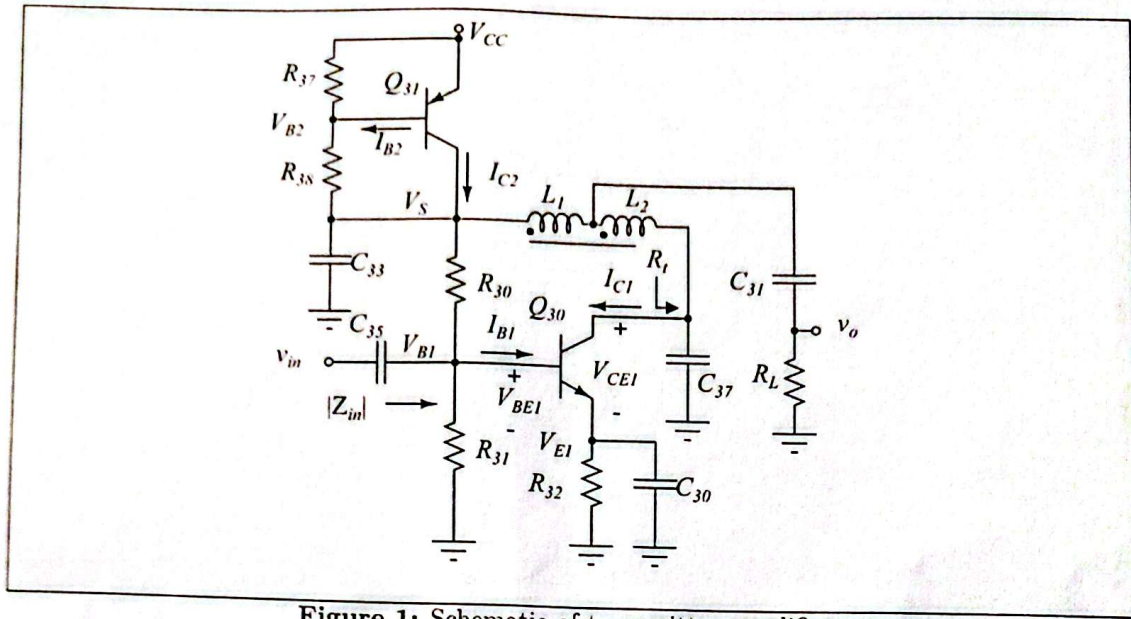

Figure 1: Schematic of transmitter amplifier.
1. A tuned RF amplifier that acts as the transmitter amplifier of TRC-11 can be built using a BJT, Q30. BJT to be used is a more powerful NPN transistor, 2N2222. Inspect the datasheet given in 349. It can handle currents up to 600 mA and voltages up to 40 V. It can dissipate up to 625 mW power at room temperature. These values are considerably high compared to KSP10 used earlier. Refer to the circuit given in Fig. 1. It is a Class-A power amplifier intended to drive an antenna. R_L is the load to be driven (it is actually the real part of the antenna impedance to be discovered later). The power delivered to R_L is the transmitted RF power into the air when the antenna is used. Actually, the output power is intentionally kept low, not to violate local RF transmission limits in this frequency band. C_{31} is a DC block capacitor. L_1 , L_2 and C_{37} form an impedance transformation network, that transforms R_L into an optimal impedance for the transistor.